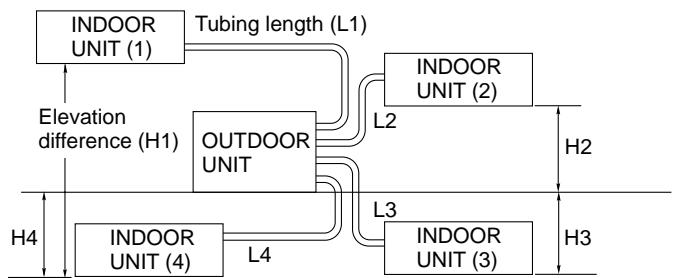

Fig. 2
- install the unit within the maximum elevation difference (H_1 , H_2 , H_3 , H_4) above or below the outdoor unit and within a total tubing length (L_1+L_2 , $L_1+L_2+L_3$, $L_1+L_2+L_3+L_4$) from the outdoor unit as detailed in Table 1 and Fig. 2.